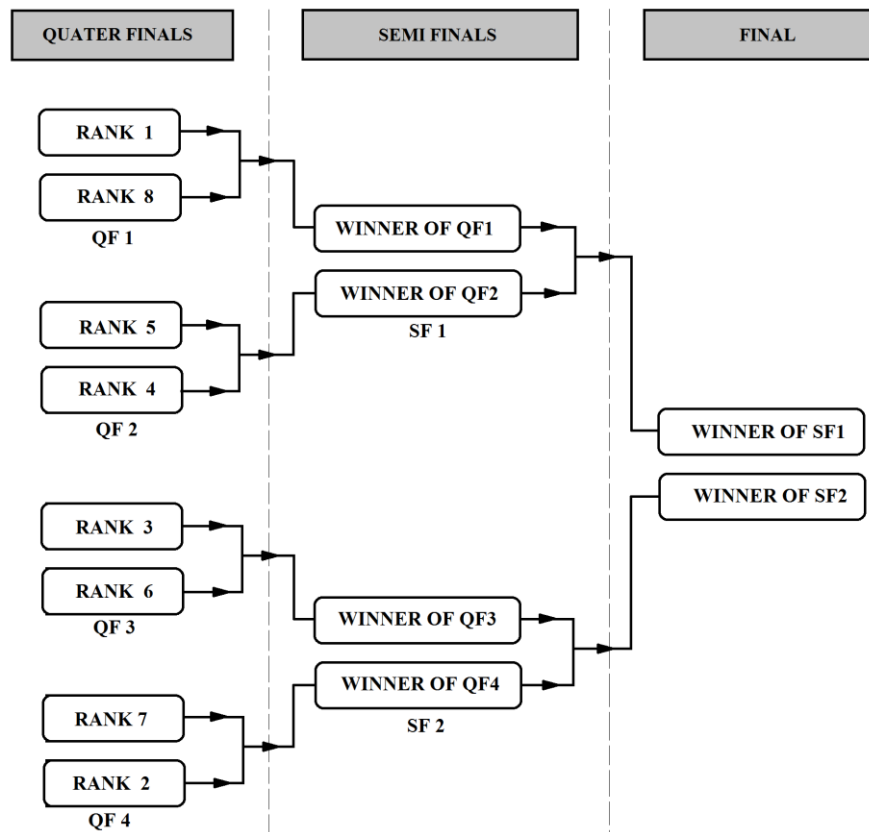

Figure 05: Final Round - Draw
- Final round consists of four quarterfinals, two semifinals and the final. Based on their rankings, teams will have to compete with each other in the quarterfinal rounds as illustrated in Figure 05.
- The winners of each stage will proceed to the next stage of the competition as shown in Figure 05. The two teams losing the two semifinals will compete for the third place.